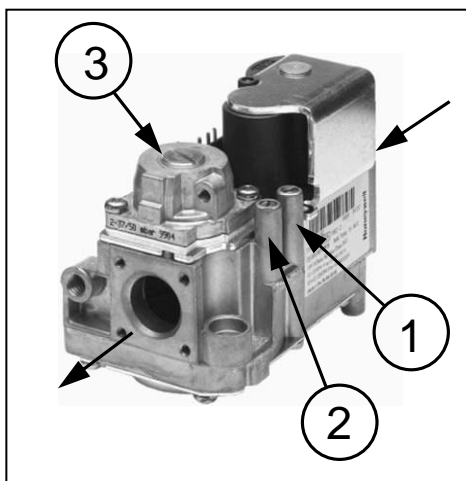

Fig. 1: Solenoid valve (single-stage)
- ⇒ Open the test nipple (**1**) (Fig. 1)
- ⇒ Open the test nipple (**2**) (Fig. 1)